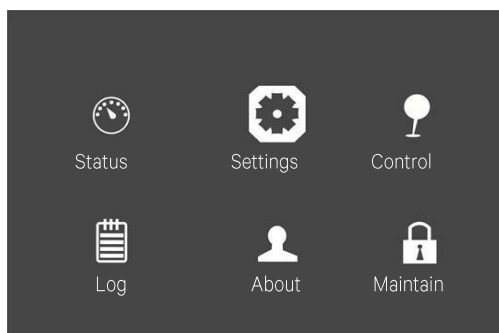

Figure 5-10 Main menu
1. On the main menu screen, press the  or  key to switch the cursor to select 'Settings', then press the  key to confirm it. See Figure 5-10.